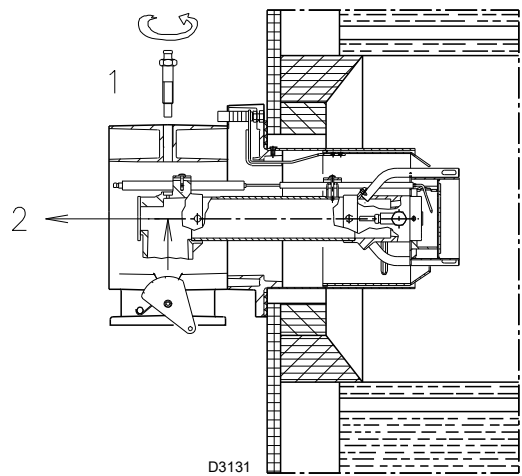

Fig. 18
- Remove the screw 1)(Fig. 18) and the internal part 2);
To facilitate the adjustment, loosen the screw 1)(Fig. 18 on page 22), adjust, then block.